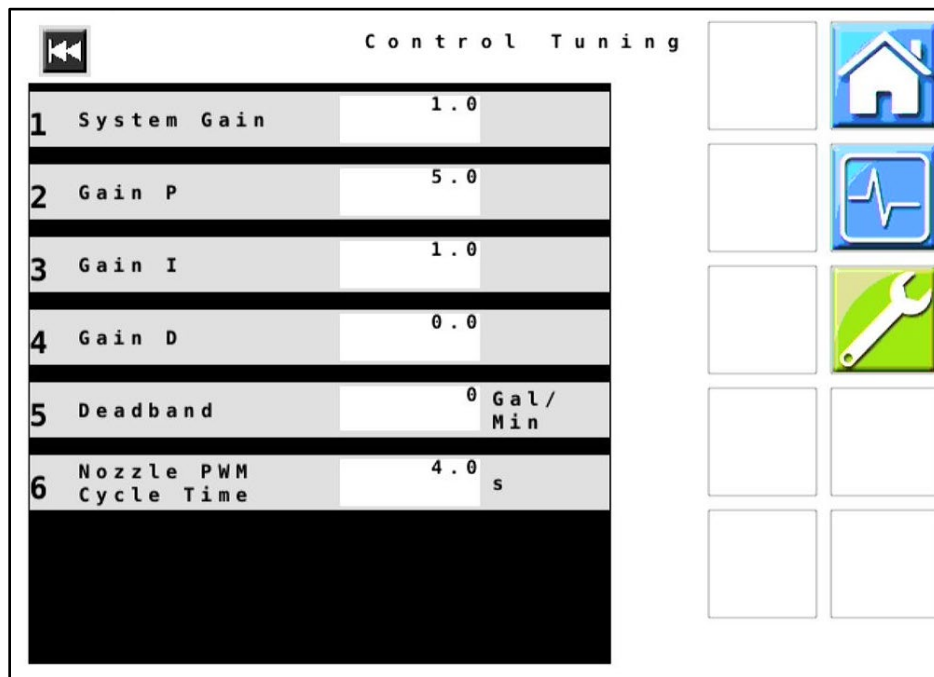

Figure 18 — Control Tuning
36. **Figure 18:** Verify that all values displayed on your unit match those shown here. Change values if necessary.